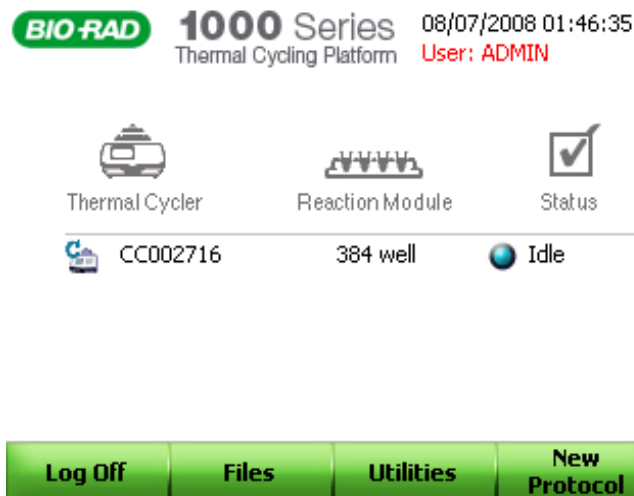

Figure 22. Start-up screen.
1. Select **Log In (F1)** on the main menu to log in to the thermal cycler as the Administrator (Figure 22).